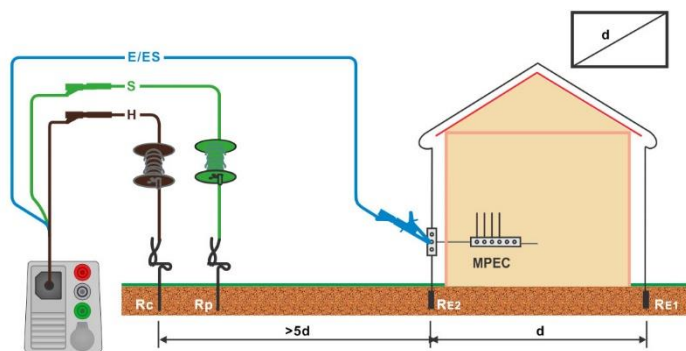

Figure 7.97: Resistance to earth, measurement of main installation earthing and lighting protection system
- › Connect 3-wire test lead to the object under test, see **Figure 7.97**.